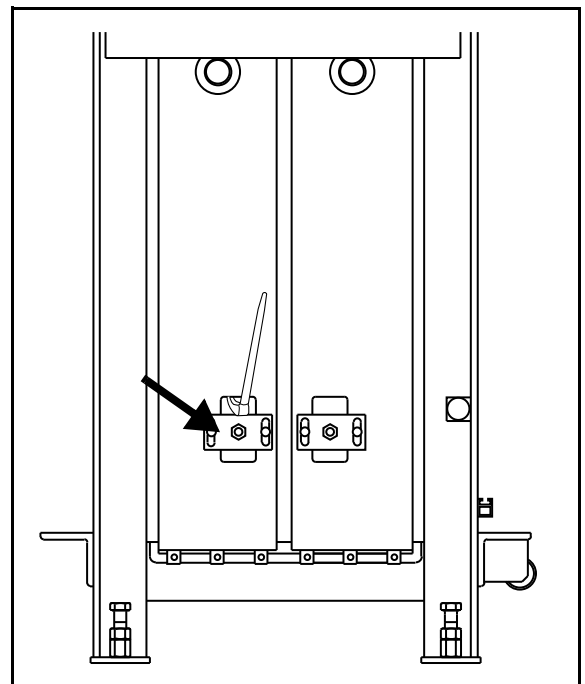

Fig. 2
- Tighten the chain by loosening the screws in the lower bearing housing. Push the bearing housing downwards with a pinch bar, see Fig. 2. Tighten the screws for the bearing housing.